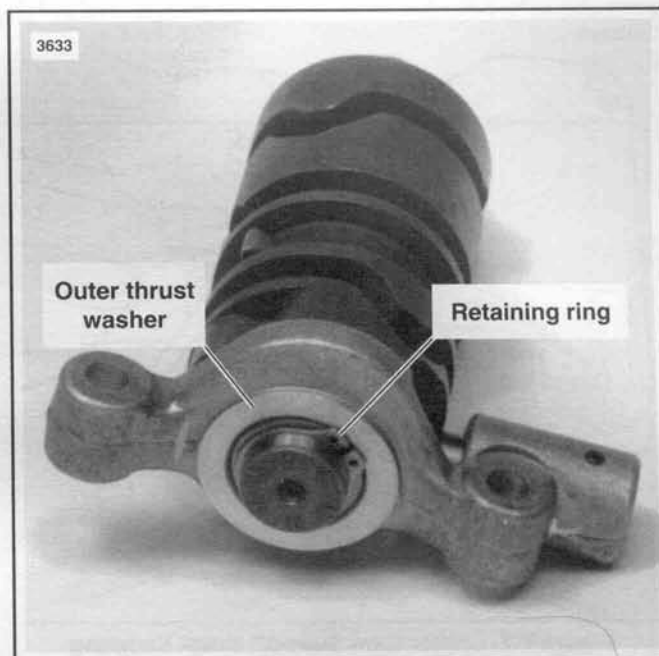

Figure 7-5. Right Support Block Retaining Ring
1. See Figure 7-5. Install outer thrust washer and new retaining ring.
See Figure 7-5. Retaining ring must seat firmly in groove. The thrust washers must spin after assembly. They must not be so tight they will not move.